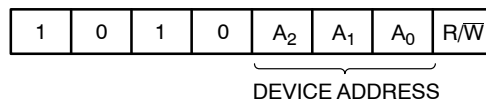

Figure 3. Slave Address Bits
The Master addresses a Slave by creating a START condition and then broadcasting an 8-bit Slave address. For the CAT24C32B, the first four bits of the Slave address are set to 1010 (Ah); the next three bits, A₂, A₁ and A₀, must match the logic state of the similarly named input pins. The R/ \bar{W} bit tells the Slave whether the Master intends to read (1) or write (0) data (Figure 3).